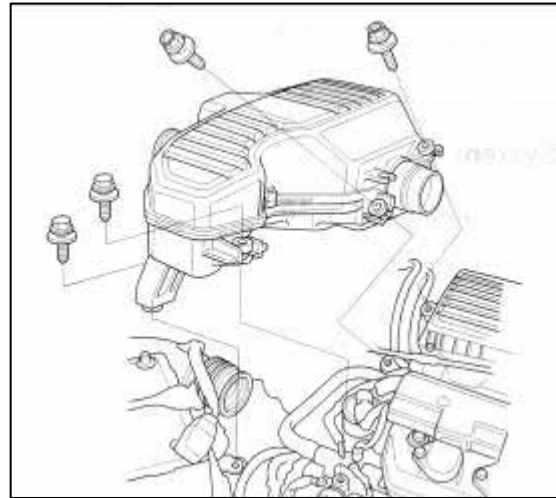

Fig. 4
- Remove the four bolts securing the intake resonator and pull the intake resonator out of the car. **(Fig. 4)**